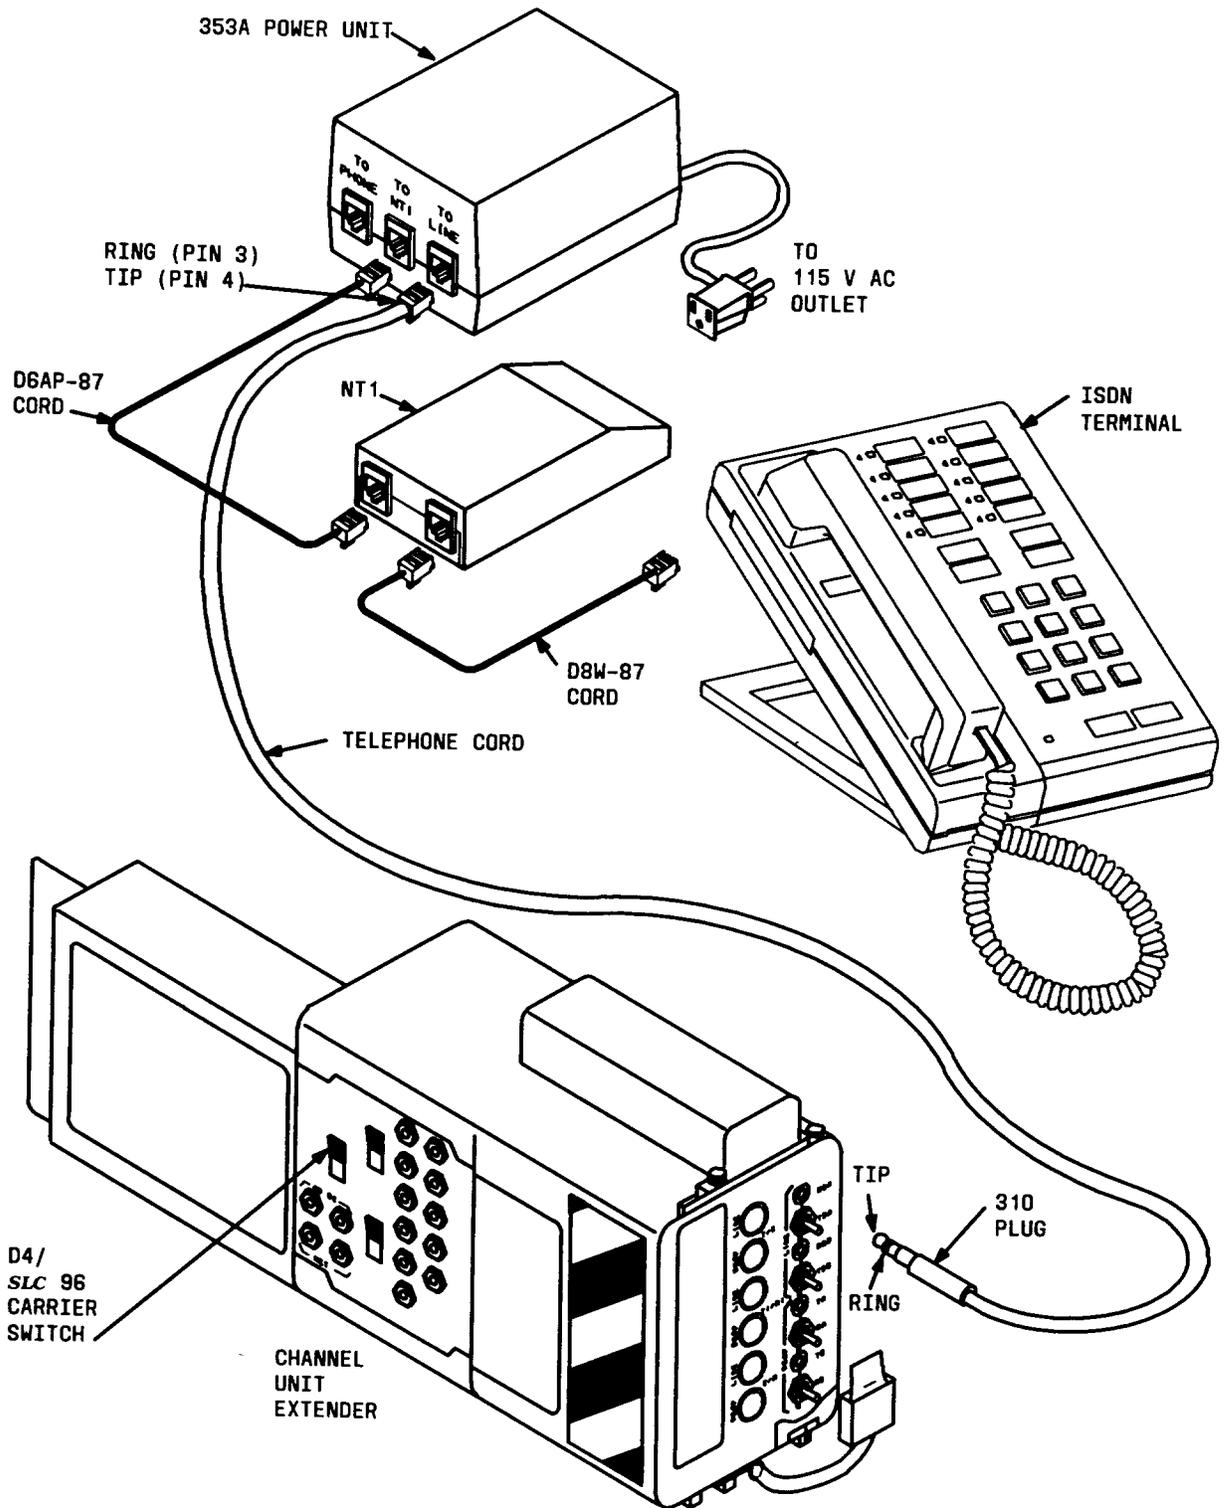

Figure 6 — Test connections to verify continuity between 5ESS switch and D4 channel bank or SLC 96 carrier terminal
4. Connect test apparatus as shown in Figure 6.
6. Insert the 6-pin modular telephone plug on the modified telephone cord into the **TO LINE** jack on the 353A power unit (Figure 6). Proceed to Step 8.